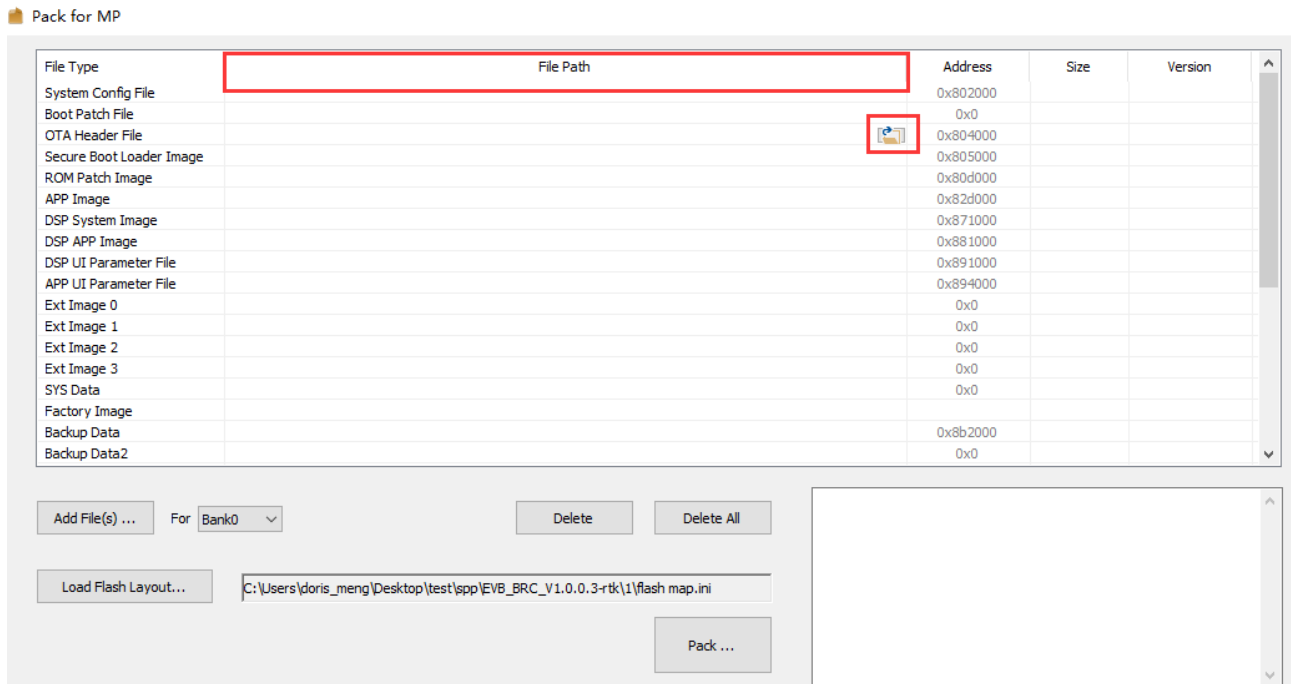
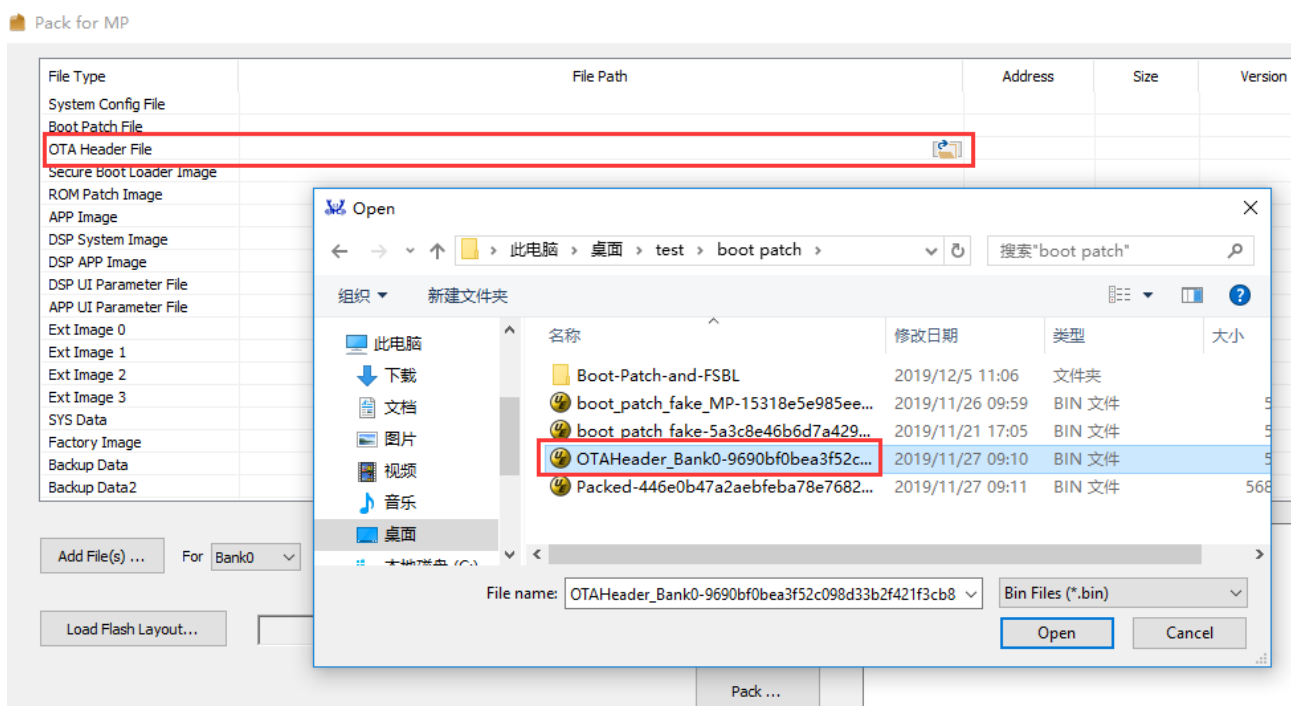

Figure 2-4 Add file path
Figure 2-5 Image File select
2. Click the folder button (Shown in Figure 2-4) to add sub image. Figure 2-5 shows Image File select dialog.